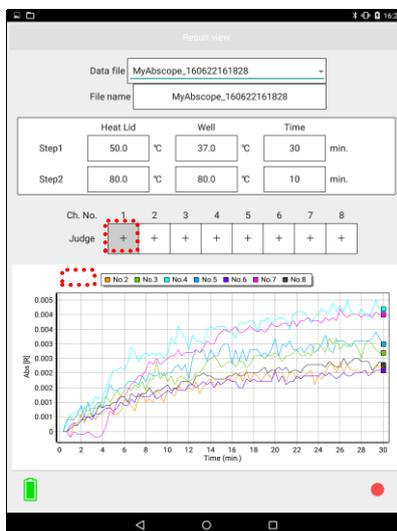

Figure 5-5: Switching show/hide for the graph of each channel
- (3) By tapping the judgment result field (2) in Figure 5-2, you can hide the graph of the relevant channel as shown in Figure 5-5. To redisplay the hidden graph, tap the relevant judgment result field again.